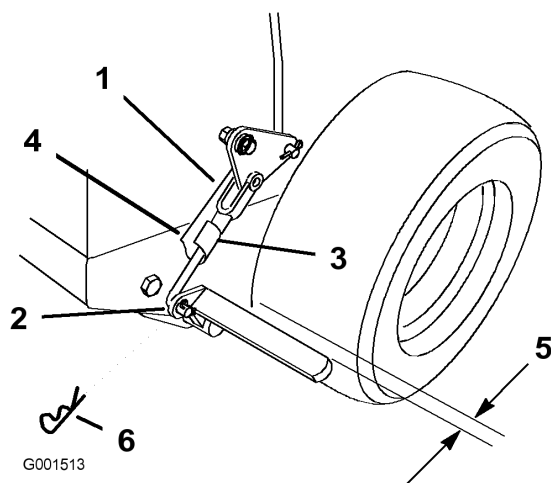

Figure 47
3. Remove the spring hair pin from the lower brake link (Figure 47).
4. Rotate the lower brake link yoke clockwise into the yoke to tighten the parking brake; rotate the brake link yoke counterclockwise out of the yoke out to loosen the parking brake (Figure 47).
Note: There should be approximately 1/4 inch clearance between the tire and the flat bar when the parking brake is in the released position (Figure 47).
5. Secure the lower link to the lower brake lever with the hair pin cotter and the clevis pin (Figure 47).